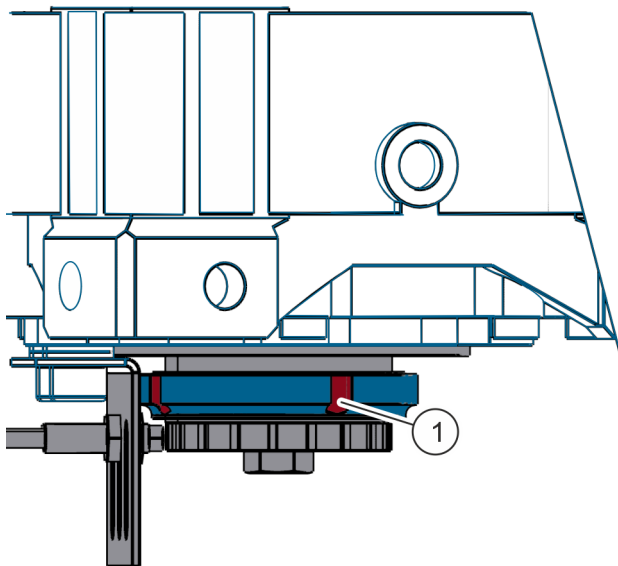

Fig. 23: Opening the sliding clutch
1. ➤ Mark the position of the shaft groove nut (Fig. 23/1).
2. ➤ Turn the shaft groove nut (Fig. 23/1) to the left as far as the bedstop with the wrench.
3. ➤ Use the wrench to adjust the shaft groove nut (Fig. 23/1) to the marked position.